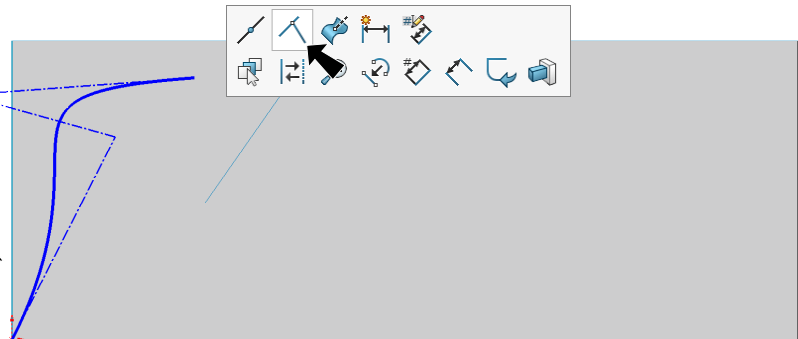

Fig. 22
Step 5. **Ctrl click 3rd Spline control vertex point and left edge** to select both. Release Ctrl key and click **Make Coincident**  on the context toolbar, **Fig. 22**.